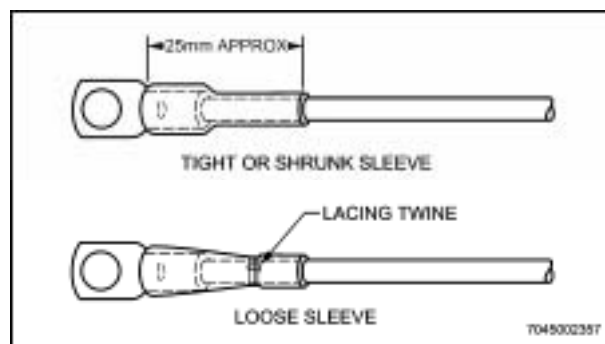

Figure 6-5 Insulating Sleeves
23. Aluminium terminal lugs are not pre-insulated; therefore, it is necessary to insulate them, after assembly, with lengths of transparent flexible tubing or heatshrink sleeves. The sleeve provides mechanical and electrical protection at the connection. (See Figure 6-5).
- k. Slide insulating sleeve over the terminal lug barrel and secure in accordance with paragraph 16 and Figure 6-5.